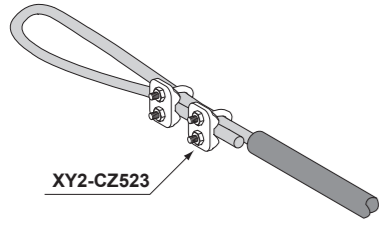

Fig. 1
- Dismantle the cable of its red sheath on approx. 10 cm (3.9 in.), fix it by 2 cable clamps XY2-CZ523 that must squeeze the cable and not the sheath. (Fig. 1).